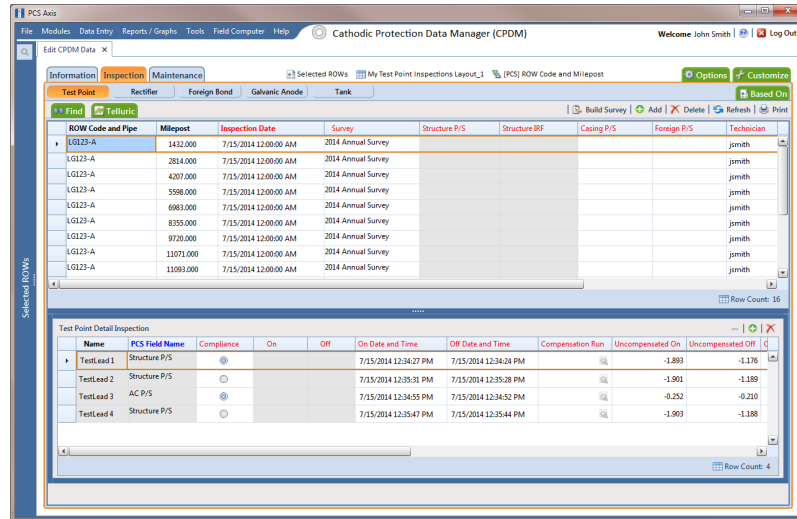

Figure 14-17. Edit CPDM Data
- Click **Test Point**  and then the **Inspection** tab  to open the *Inspection* grid. Test points eligible for compensation include voltage measurements in the fields labeled *Uncompensated On* and *Uncompensated Off* in the *Test Point Detail Inspection* mini-grid as shown in the following figure (Figure 14-17).